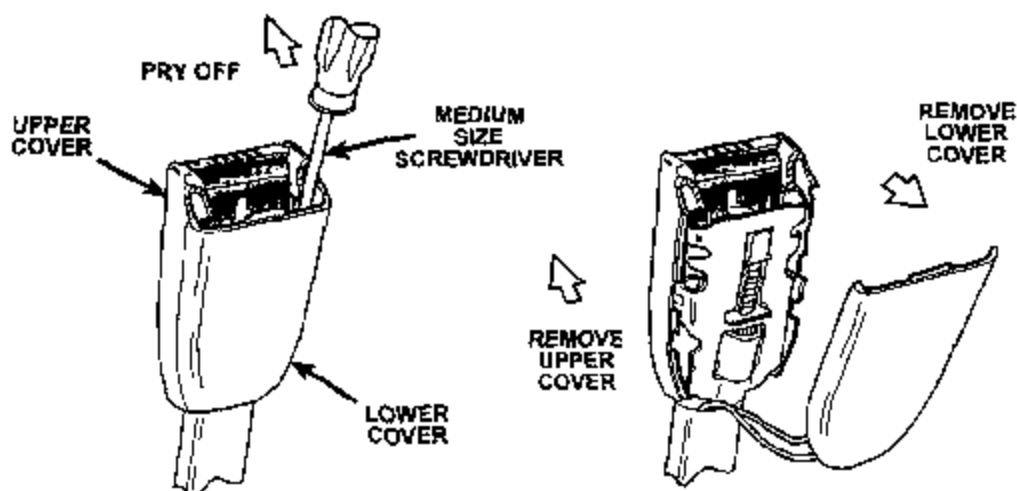

Figure 4
5. Remove the lower buckle cover by inserting a medium size screwdriver into the holes created in the upper cover in Step 4 and prying the bottom cover off (Figure 4). Pry with the screwdriver blade against the lower cover being careful not to damage the buckle mechanism.